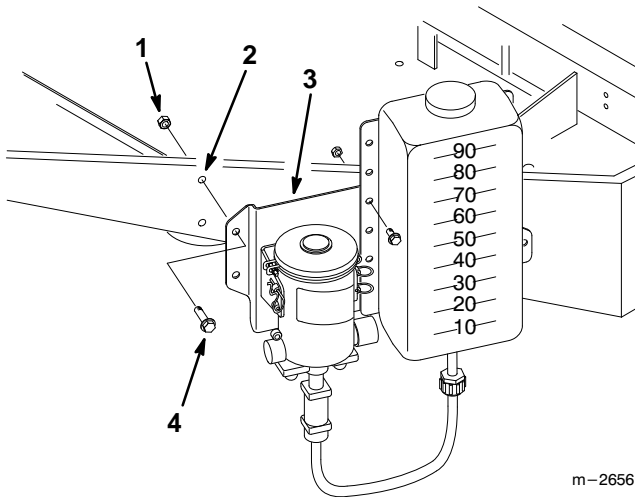

Figure 6
12. Tape the paper hole template (included with the kit) onto the right-hand rear side of the machine frame to locate the support bracket mounting holes (Fig. 6).
13. Center-punch and drill the three 13/32" (10.5 mm) diameter mounting holes (Fig. 6). Use caution not to damage the wiring.
14. Mount the support bracket and attached assembly to the side of the machine using the three (3) 3/8"-16 x 1-1/2" (38 mm) hex head bolts and locknuts (Fig. 6).